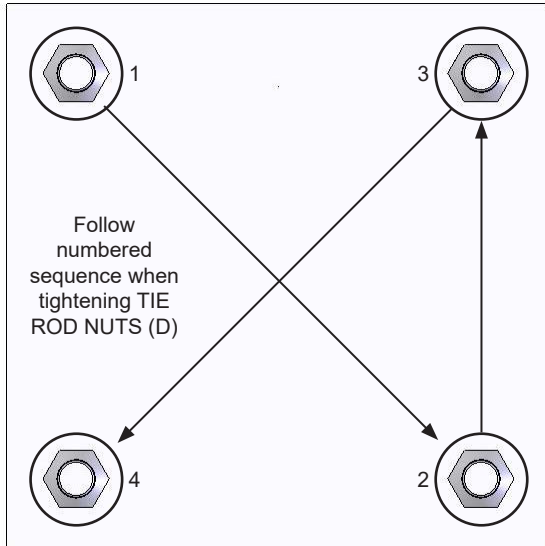
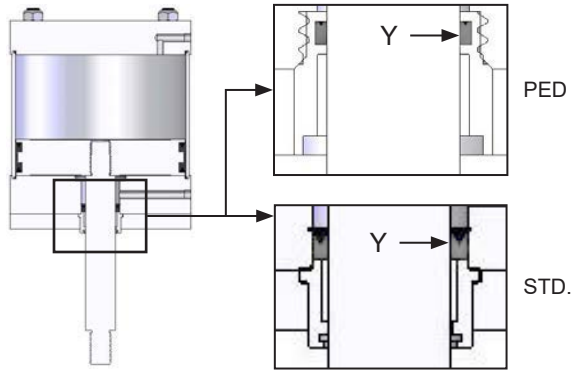

Figure 14. Tighten nuts in crossing pattern
Figure 27. Reassemble the Rod Seals and Flange
12. Re-assemble ACTUATOR CYLINDER (A). Install TIE RODS (F) and TIE ROD NUTS (D), but do not tighten TIE ROD NUTS (D).
13. Tighten TIE ROD NUTS (D) in a crossing pattern (shown in figure 14), using specified torque ratings (listed in table 2).
- c) Using a clean, lint-free cloth, apply a thin layer of STP® lubricant to BEARING ASSEMBLY (X), and o-ring grease to ROD SEAL (Y).
- d) Ensure orientation of seal is correct as pictured in figure 27. Reassemble ROD SEAL (Y), MOUNTING FLANGE (W), BEARING ASSEMBLY (X), TIE RODS (V), and TIE ROD NUTS (T). Utilize figure 14, and table 2 to finish the assembly.